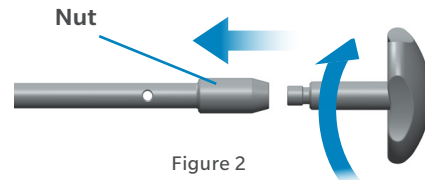

Figure 2
1. Screw the knob (1) in the cannulated ram guide (4) and fasten it with the nut as shown on Figure 2.